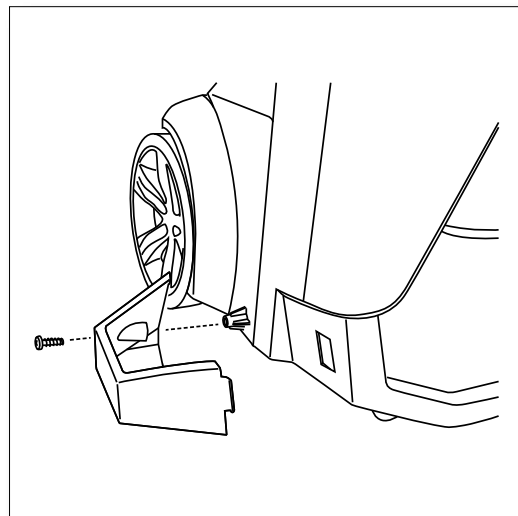

Fig. 2
- Slip tab into slot and screw the nozzle tray on the bottom portion of the unit. **(Fig. 2)** When placing the gun with the lance attached the nozzle will rest in this tray.